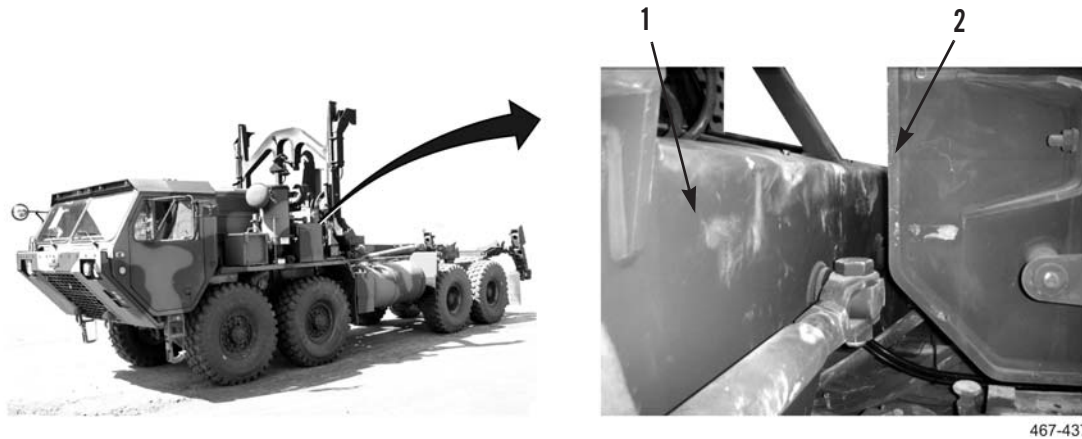

Figure 22. Distance Between Stowage Assembly and Hook Arm.
2. Adjust placement of stowage assembly (Figure 22, Item 1) on frame until distance between stowage assembly and front edge of hook arm (Figure 22, Item 2) measures 3 1/8 in. (80 mm).